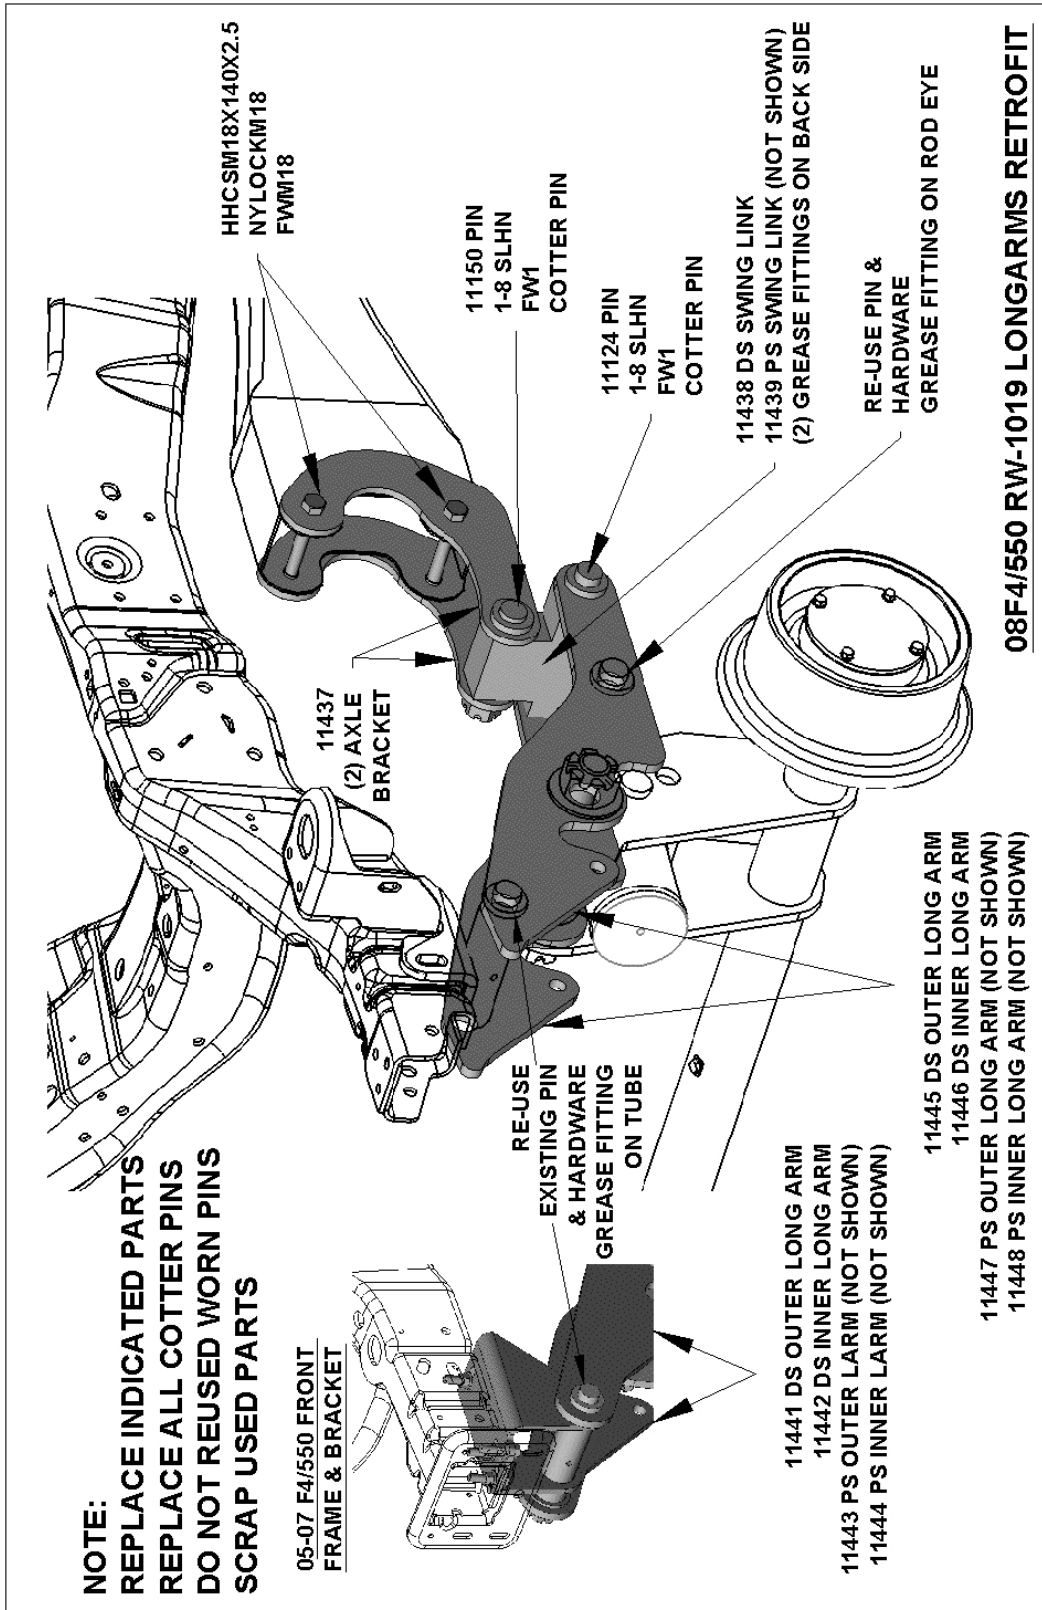

Fig. 1: New Longarms
- Longarms with rear slots with or without guide rails & slide bars (see Fig. 1)